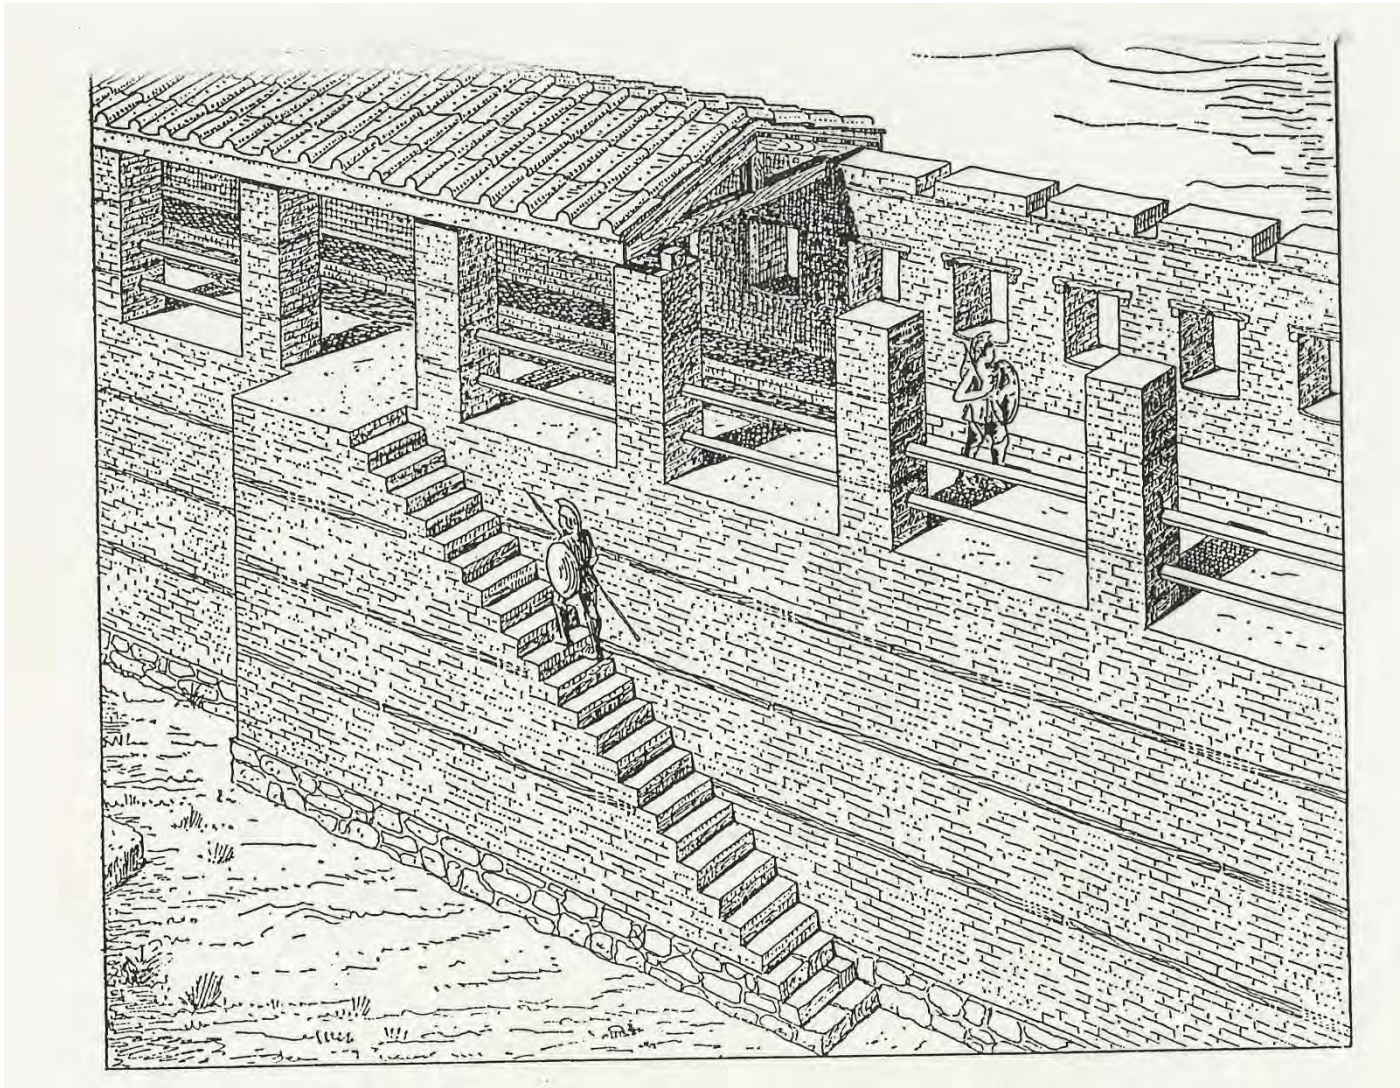

Fig.11. Mud-bricks were also used in building the fortification walls of Athens, (Orlandos)
- Fortifications, (Fig. 11)
(Fig. 11)